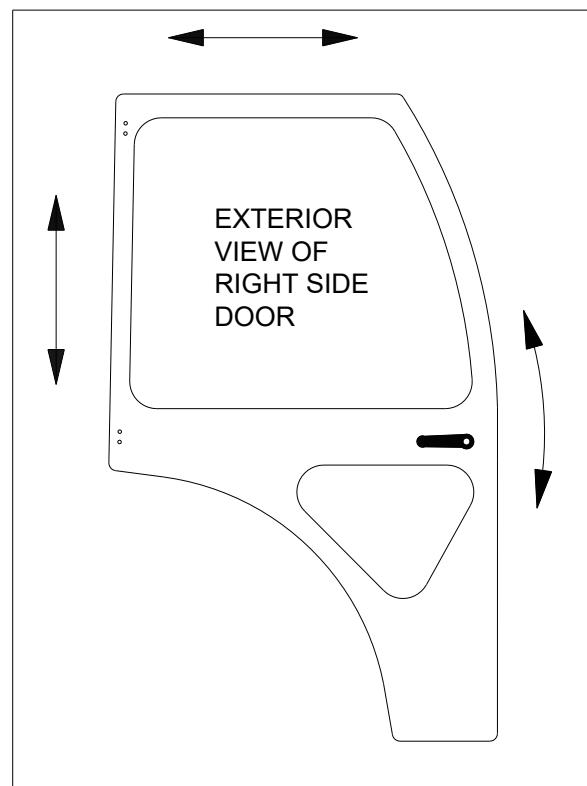

Fig. 17.4 (right side door)
17.4 Per fig. 17.4, the 1/4-20 flange hex head bolts on the door hinges can be loosened on the rear tube, or on the door itself, or in both places, in order to slightly rotate the door up or down as necessary for proper latch assembly and striker bolt engagement. Note: an assistant will be needed for this step. Keep the hinge sleeves fully seated on the pin hinges. Tighten all hinge bolts using caution to **not** over tighten. Over tightening will crush (damage) the structural tubing. **Torque to 40 inch/pounds.**